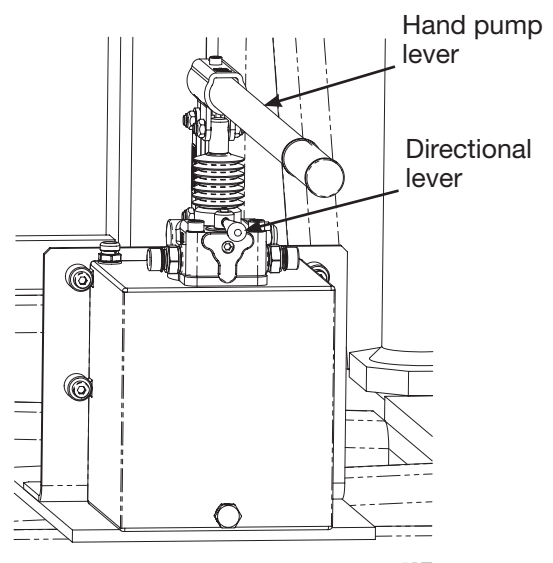

Figure 14: Pump on trolley
5. Use the hand pump (figure 14) on the Installation Trolley to raise the height of the machine until the centre height is slightly higher than the 'Blade Root'.